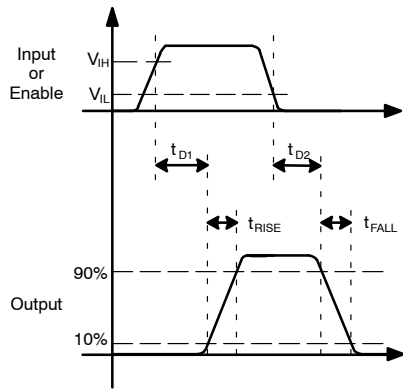
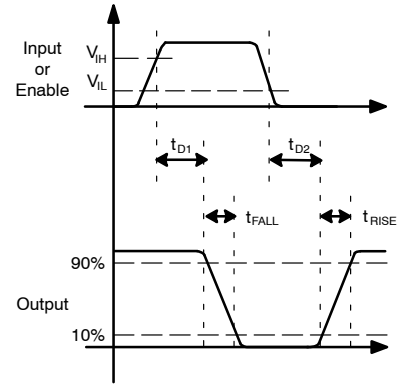

Figure 9. Non-Inverting
Figure 10. Inverting
10. See Timing Diagrams of Figure 9 and Figure 10.